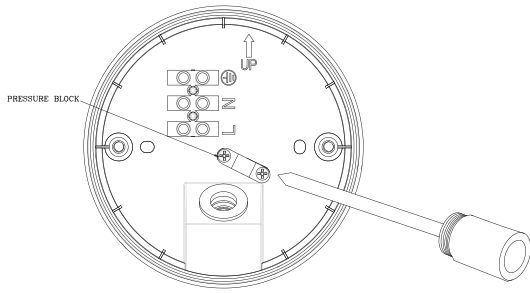

FIGURE 48
(1) Switch off the power source or wall switch.
(2) Remove the wall box then unscrew one of the screws on the pressure block. (FIGURE 48)